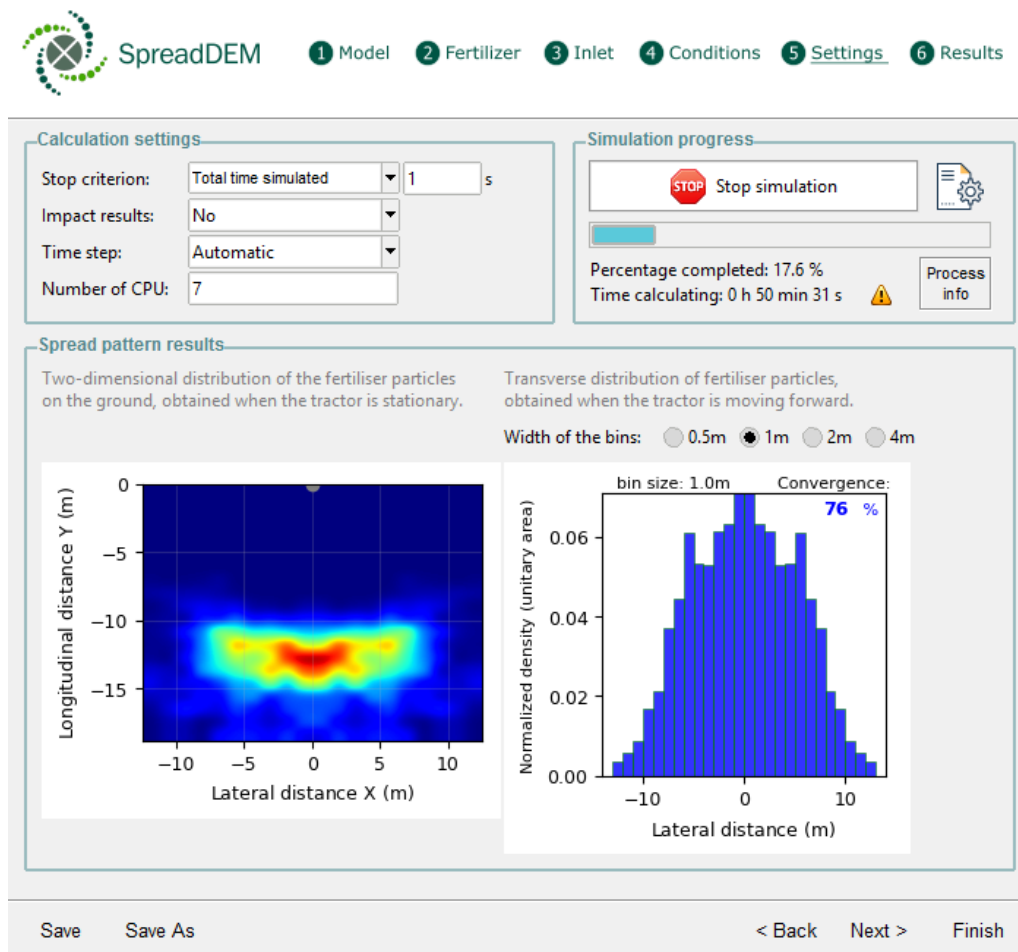

Figure 33. Results of the ongoing simulation.
- **Spread pattern results:** the spread pattern and the transverse distribution graph will be displayed and updated all along the simulation (Figure 33). The first results may take some time to appear, as it requires a significant number of particles to have reached the ground plane.